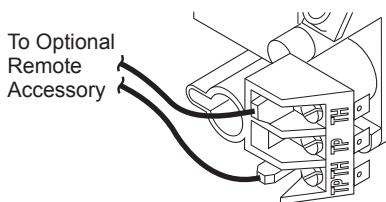

Figure 38 - Control Valve Terminals
4. Connect wires from receiver to TH and TPTH to control valve (see Figure 38).